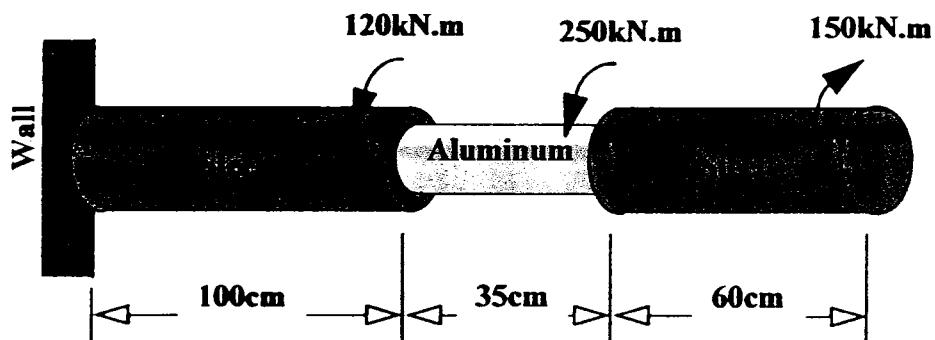

FIGURE Q5
- Q5** Two circular steel shafts ($G=83\text{Gpa}$) of diameter 50mm are securely connected to an aluminum shaft ($G=28\text{Gpa}$) of diameter 35mm as shown in Figure Q5. If the torsional shear strain varies linearly across a homogeneous cross section of AB and CD, and the shear strain variation is independent of material behaviour across the cross section of BC:
- (a) Describe **Two (2)** characteristics of torsional loading on the homogenous shaft AB.